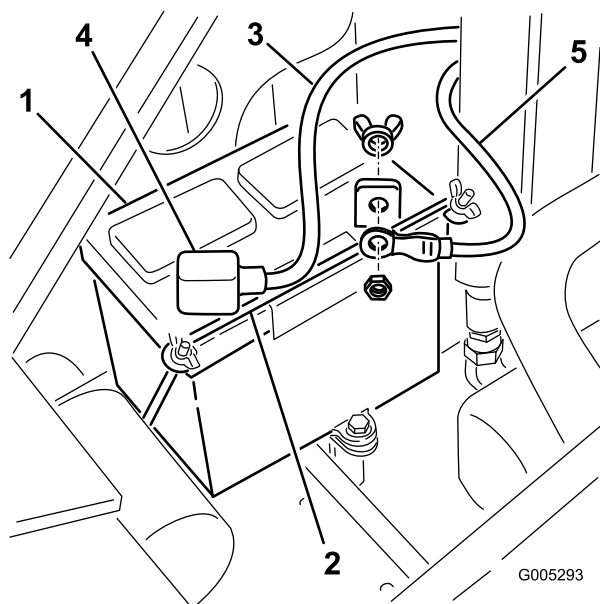

Figure 31
4. Remove the wing nuts and bar securing the battery (Figure 31).
5. Disconnect the negative (black) ground cable from the battery post (Figure 31). Retain the fasteners.
7. Disconnect the positive (red) cable from the battery post (Figure 31). Retain the fasteners.
1. Using the fasteners previously removed, install the positive (red) battery cable to the positive (+) battery terminal (Figure 31).
3. Using the fasteners previously removed, install the negative (black) battery cable to the negative (-) battery terminal (Figure 31).
4. Secure the battery using the bar and wing nuts (Figure 31).